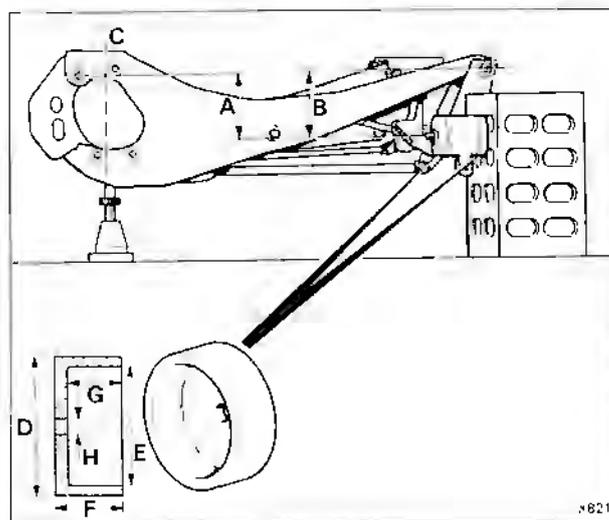

Fig. H11-2 Camber and toe-in setting
1. Mount the rear crossmember and trailing arms on a surface table as shown in figures H11-2 and H11-3.
- using small screw jacks situated beneath the trailing arms (see fig. H11-2).
1. With the crossmember and trailing arm assembly mounted on a surface table as shown in figures H11-2